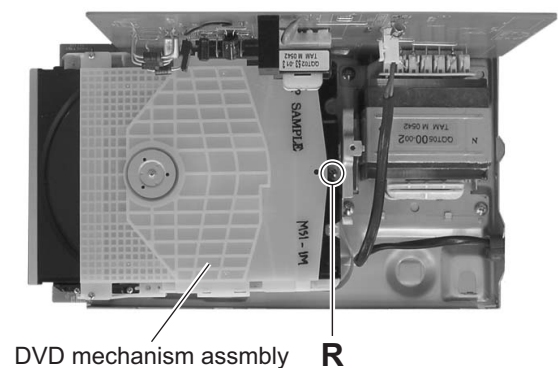

Fig.12
3.1.10 Removing the DVD mechanism assembly (See Fig. 12)
- (3) Remove the one screw **G** attaching the plate. (See Fig.12)
- (4) Disengage the plate from fixing part **s** and take out the plate. (See Fig.12)